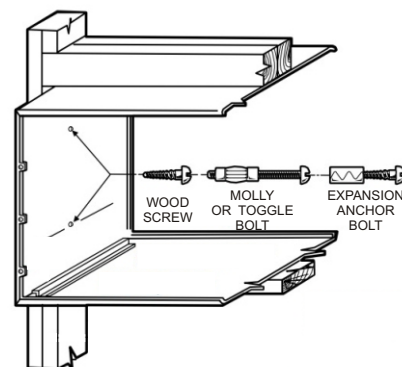

Fig 7
- Fasten the wall sleeve (Fig 7).